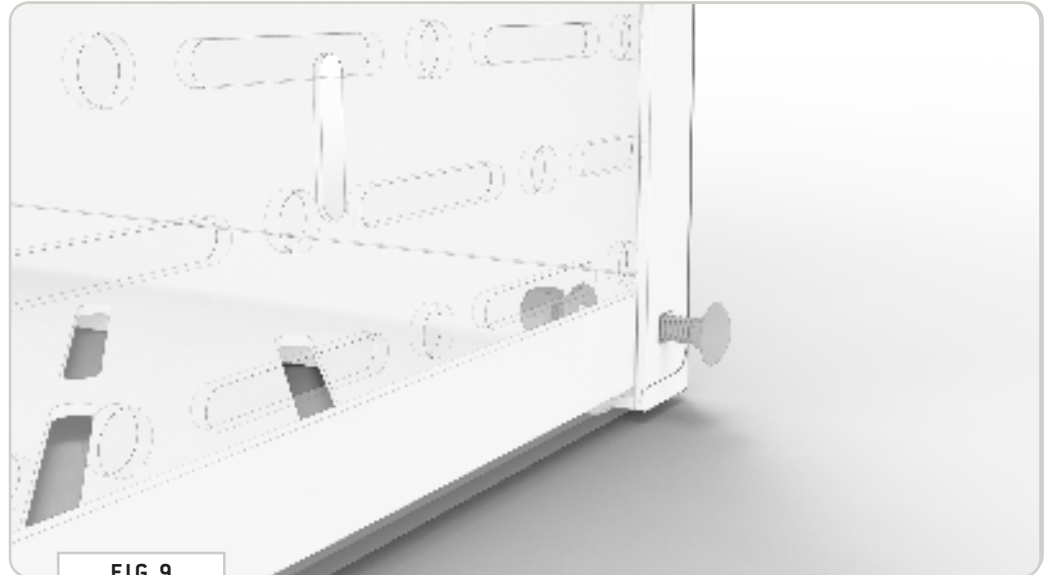

FIG 9
2.4 Secure Panels to Bottom Pan: Secure the panels to the Bottom Pan using the supplied 1/4-20 x1 Carriage Bolts, Flat Washers and Nylon Locknuts (FIG 9+10).